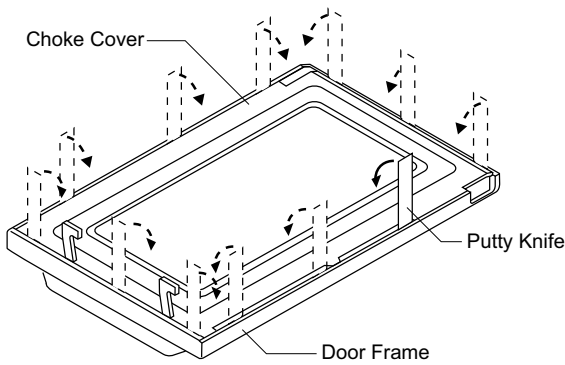

Figure C-6. Door Disassembly
3. Insert a putty knife (thickness of about 0.5mm) into the gap between the choke cover and door frame as shown in Figure C-6 to free engaging parts.
4. Pry the choke cover by inserting a putty knife as shown in Figure C-6.